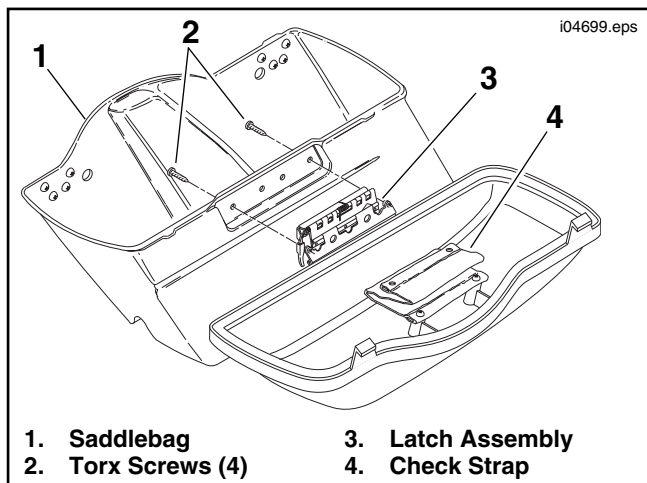

Figure 1. Saddlebag Cover Removal (Left Side Shown)
3. See Figure 1. Using a T-15 TORX® drive head, remove the two screws (2) holding the check strap (4) and latch assembly (3) to the saddlebag (1). Remove the remaining two screws holding the latch assembly to the saddlebag. Set the saddlebag aside, safely out of the way.